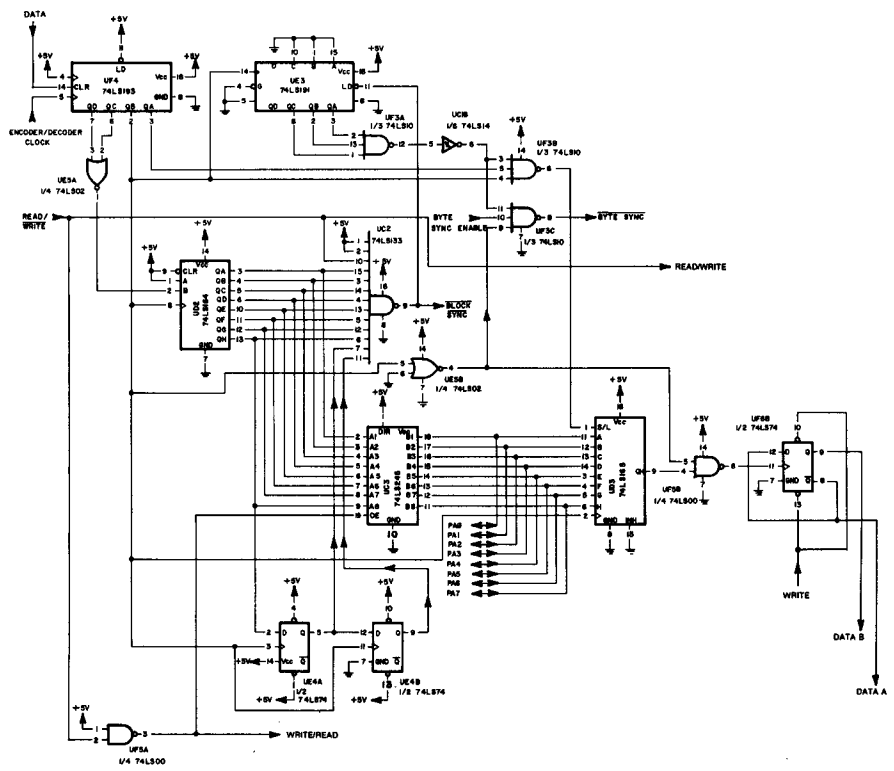

Fig. 7-19. Schematic of encoder/decoder circuit, Model 1540.
7.1.9 Encoder/Decoder Electrical Theory (Refer to Figs. 7-19 and 7-20)